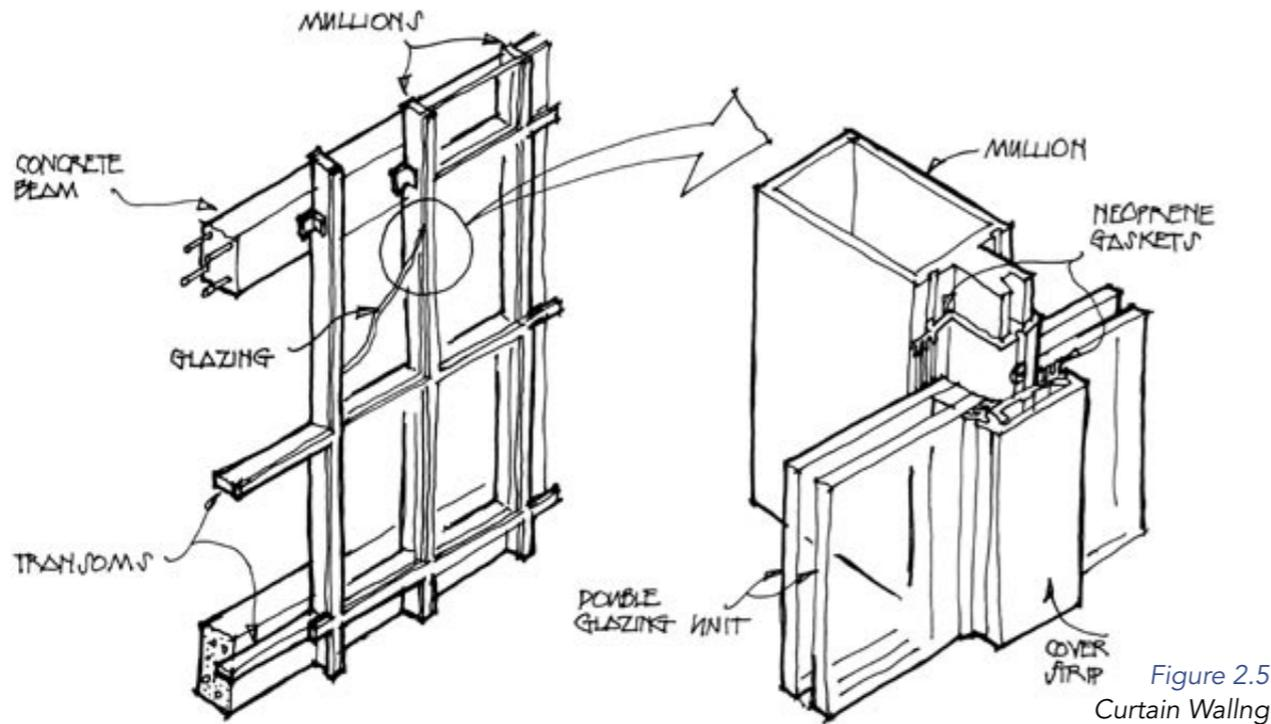

Figure 2.5
**Curtain Walls** are a form of non-load-bearing external walling that forms a lightweight skin surrounding a structural framework. It consists of a lightweight framework (usually of aluminium alloy) into which are fitted glazed or opaque panels. *Figure 2.5* illustrates such a system comprising 'mullions' (vertical members) which are attached to the floor, or beams supporting the floor of